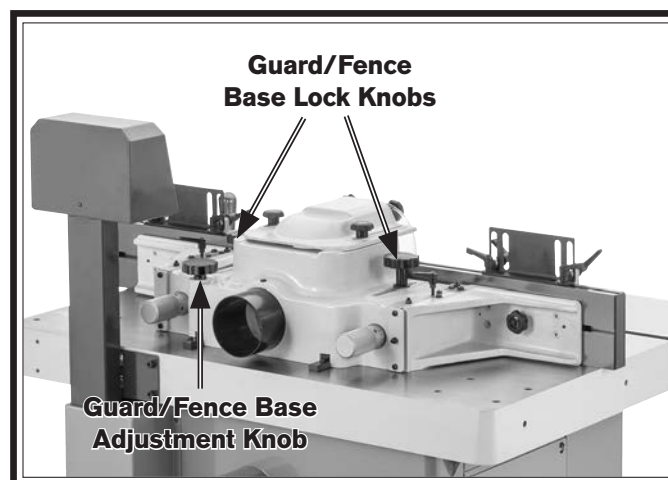

Figure 48. Guard/fence base adjustment components.
5. Loosen both guard/fence lock knobs (see Figure 48).
6. Adjust infeed fence by turning guard/fence base adjustment knob (see Figure 48) until workpiece contacts cutter in desired location when pressed against infeed fence.